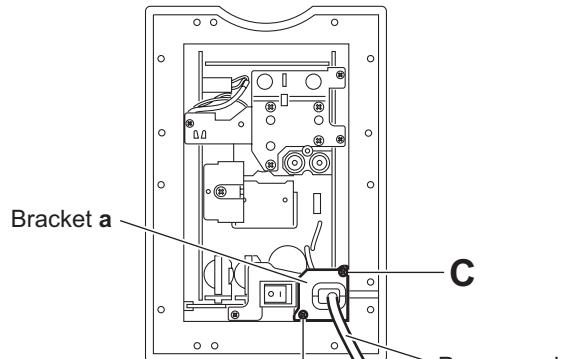

Fig.4
3.3 Removing the power cord (See Figs.4 and 5)
- Remove the two screws **C** attaching the bracket **a**. (See Fig.4.)